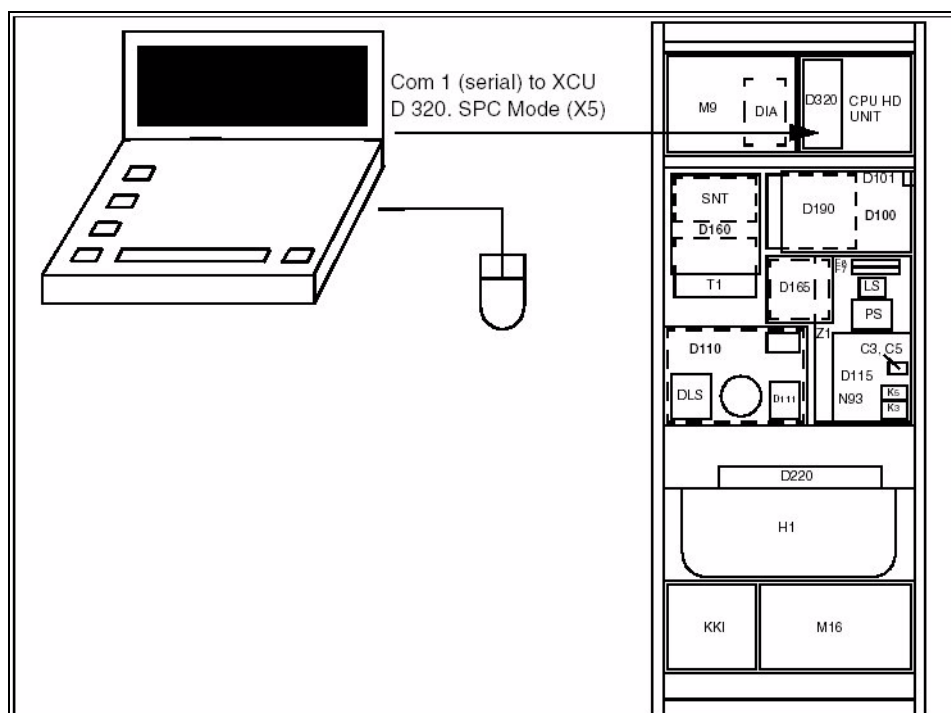

Fig. 1 Connection service PC
- Connect the service PC to the POLYDOROS SX65/80 generator as shown (Fig. 1).